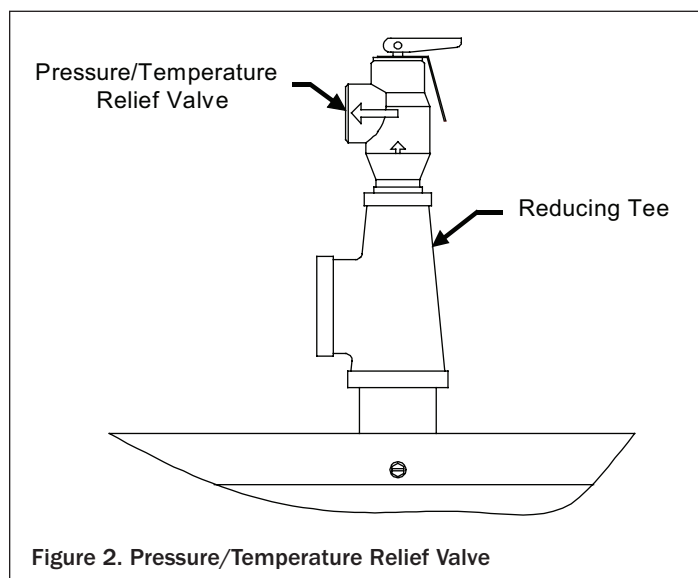

Figure 2. Pressure/Temperature Relief Valve
3. The hot water outlet is at the top of the tank. A reducing tee and a combination pressure/temperature relief valve are furnished with the Therma-Stor II. These must be installed so the sensing element of the pressure/temperature valve extends inside the tank and the hot water discharge is horizontal, as shown in Figure 2. Connect the outlet of the relief valve to a suitable open drain. The drain pipe must pitch downward from the valve and must be no smaller than the size of the outlet of the valve. The end of the drain line should be close to the floor with a 6" air gap. It must not be concealed and should be protected from freezing. No valve of any type may be installed between the relief valve and the tank or in the drain line.